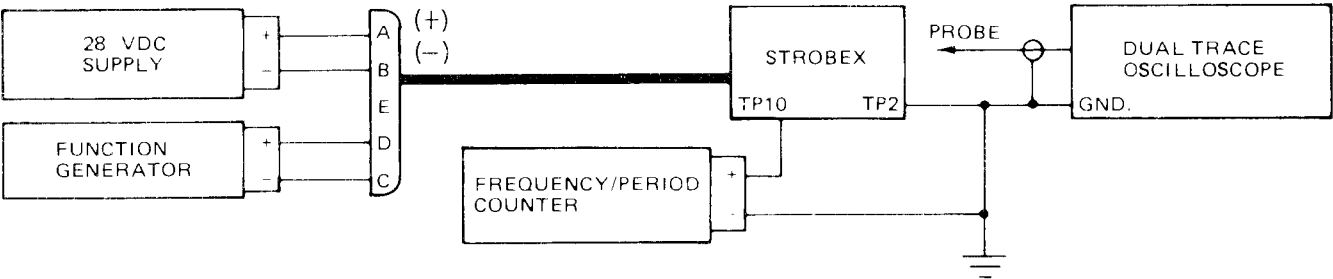
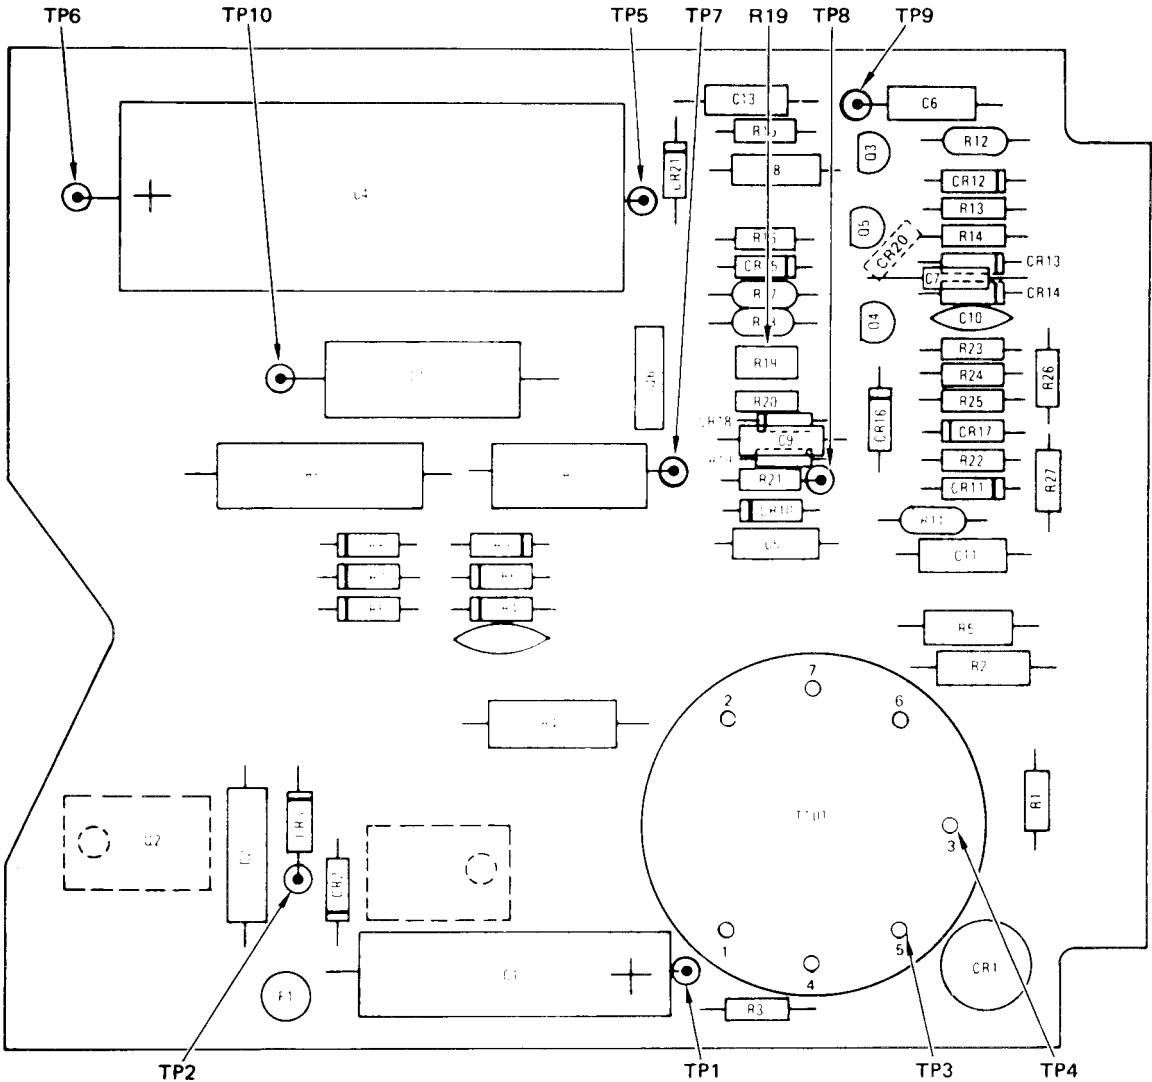

Figure 4-10. Strobex Test Setup
Figure 4-11. Strobex Test Points and Adjustments
*b. Perform Strobex resistance checks in accordance with Table 4-7. Figure 4-11 shows the location of Strobex test points.*
(1) Connect +28 vdc power supply only to Strobex as shown in Figure 4-10.
(2) Set MODE switch to A and RPM dial to 500.
(3) Use VOM to measure voltage at test points in Table 4-8 (Trigger pulled).
(4) Connect test equipment as shown in Figure 4-10.
(5) Connect oscilloscope to function generator and set up function generator for a 40 Hz square wave output of 800 mV peak-to-peak.
(6) Squeeze and hold trigger on Strobex. Verify that Strobex flashes steadily and that flash rate is 40 Hz on frequency/period counter.
(7) Reduce function generator output until Strobex flashes erratically. Verify that function generator output is 600 mV peak-to-peak or less on oscilloscope. Release trigger.
- (1) Disconnect frequency/period counter and function generator,
- (2) Connect oscilloscope to TP10 (Fig. 4-11). Set up oscilloscope to sync on EX 60 Hz source and to measure a 400-volt signal with a 2 ms/division time base.
- (3) Set RPM dial MODE switch to positions indicated in Table 4-9. At each setting, adjust RPM dial to sync oscilloscope. Verify that RPM dial indicates value listed in Table 4-9 after syncing.
- (1) Connect Strobex and test equipment as shown in Figure 4-10.
- (2) Connect oscilloscope to function generator and set up oscilloscope to trigger from positive edge of function generator output.
(3) Set function generator output to 10 Hz at 1 volt peak-to-peak.
(4) Set MODE switch to B and RPM dial to 395.
(5) Disconnect oscilloscope from function generator and connect to TP-9 (Fig. 4-11).
(1) Connect Strobex and test equipment as shown in figure 4-10.
(2) Connect oscilloscope to function generator and set up oscilloscope to trigger from positive edge of function generator output.
(3) Set MODE switch to D and RPM dial to 100.
(4) Disconnect oscilloscope from function generator and connect to TP10 (Fig. 4-11). Set oscilloscope to internal trigger, negative slope.